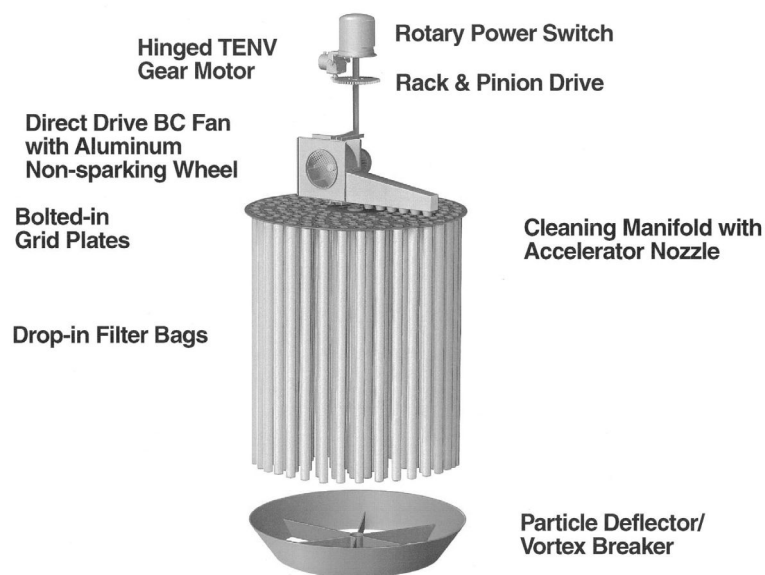

FIGURE 6-14. Reverse air dust collector
**6.3.10 Reverse Air Filters.** Accumulated dust is removed by isolating one section or compartment of the baghouse from use long enough to send airflow from a smaller cleaning fan to the clean side (in a reverse direction) through the filter media. This dislodges the dust from the surface and the heavier particles fall to the hopper for final removal. Typically, collector design must take into account the fact that one compartment will be temporarily offline and air-to-media ratios must reflect such a consideration. Reverse air cleaning methods are gentler on bag media, which can add to bag longevity (see Figure 6-14).